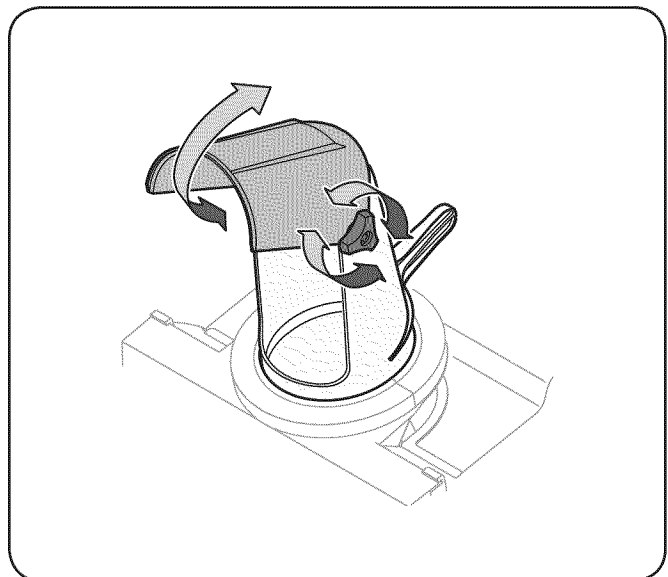

Figure 5-2
1. Loosen the wing knob found on the left side of the chute assembly and pivot the upper chute upward or downward to the desired pitch. Retighten the wing knob before operating the snow thrower. See Fig. 5-2.